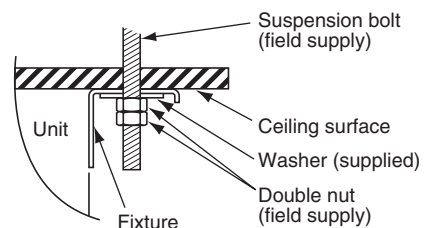

Fig. 3-22
- Carry out the preparation for suspending the indoor unit. The suspension method varies depending on whether there is a suspended ceiling or not. (Figs. 3-22 and 3-23)